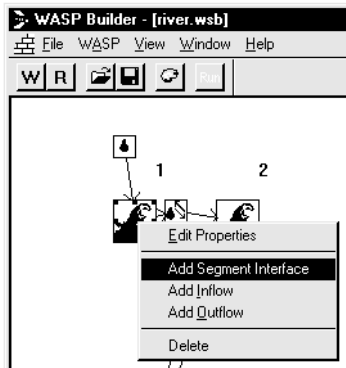

Figure 35: Adding Exchanges and Flows
1. To add these links, click once with the left mouse button on an upstream segment to select it. Then click once with the right mouse button to open a menu containing segment and interface editing options (Figure 35).